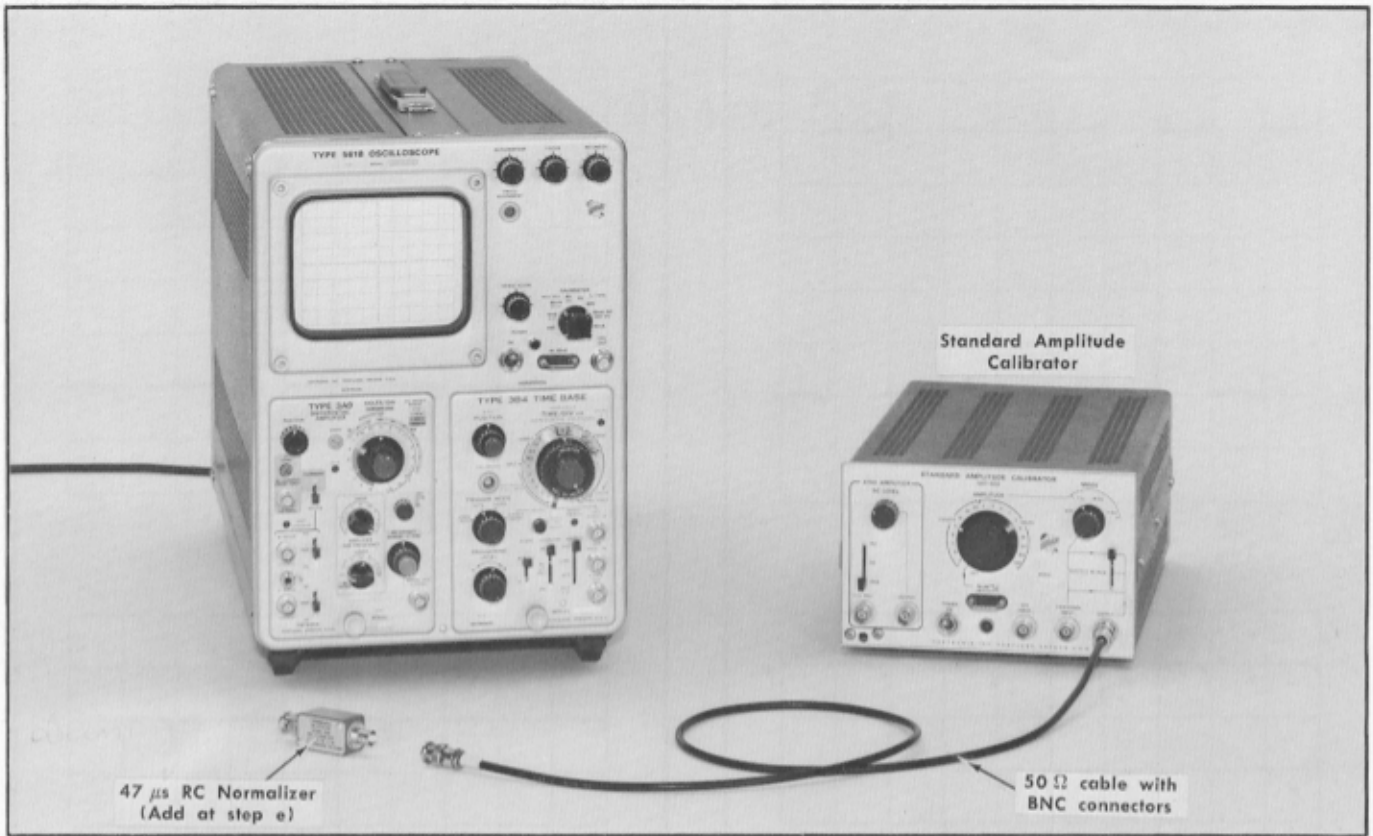

Fig. 5-22. Equipment required for step 19.
- a. Test equipment is shown in Fig. 5-22.